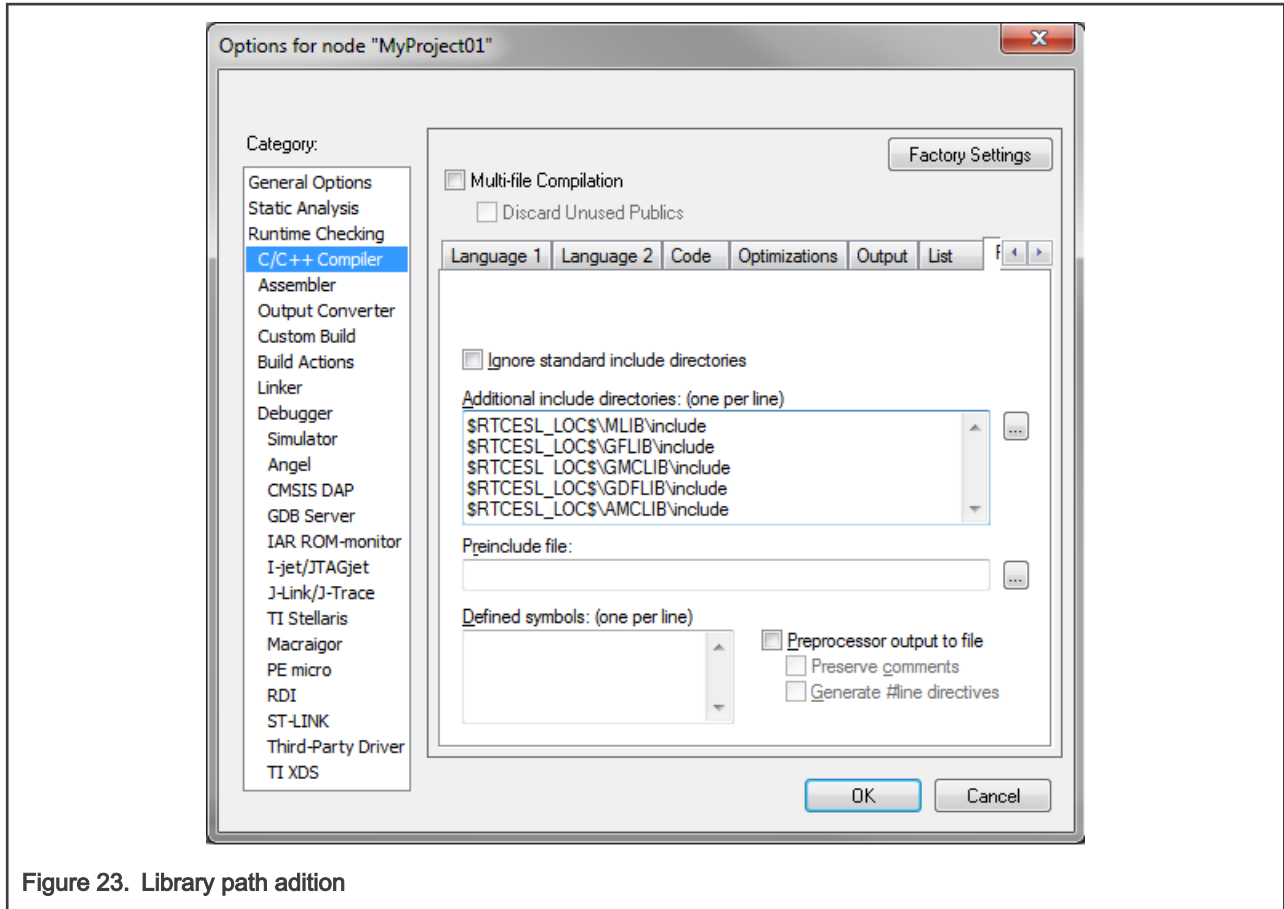

Figure 23. Library path addition
5. Click OK in the main dialog. See Figure 23.